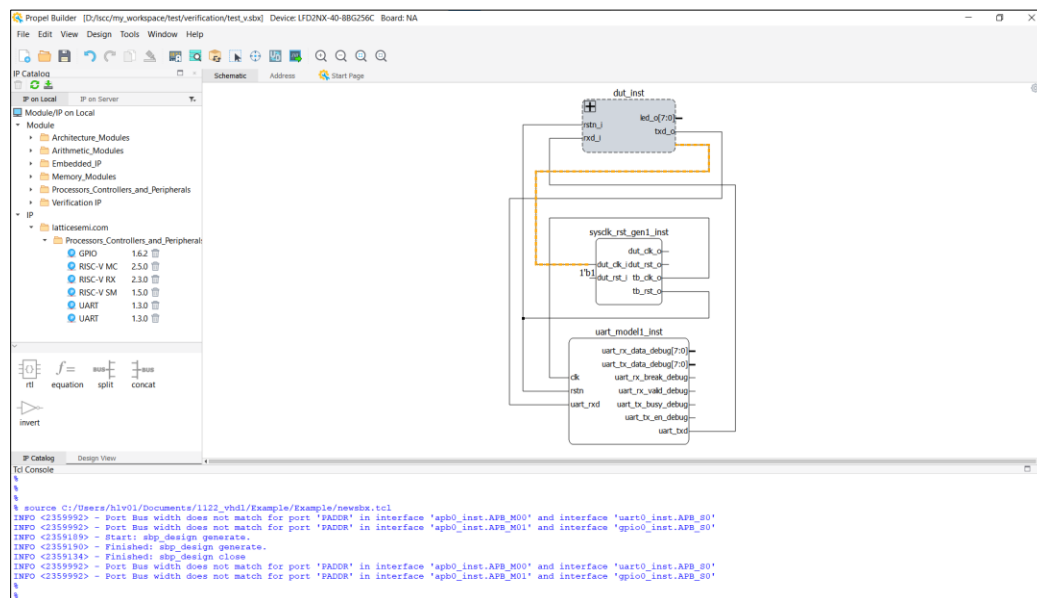

Figure 5.4. Launch TCL Script to Create New Project
- To launch this TCL script to create a new project, verify that no design is currently open in Lattice Propel Builder. Type source <tcl\_path> in the TCL console, as shown in the example below (Figure 5.4):